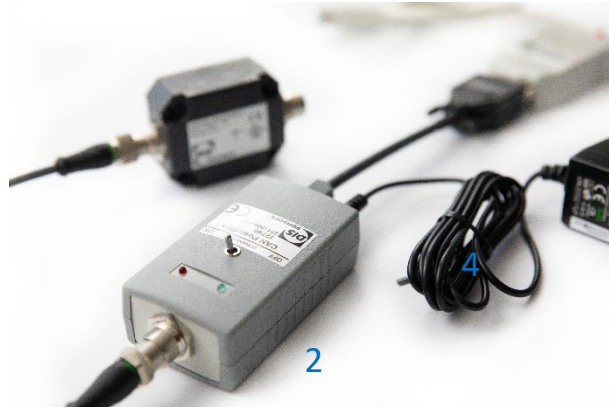

Figure 22 - Power Adapter for the CAN power box
- Item 4: Power adaptor. (Figure 22)